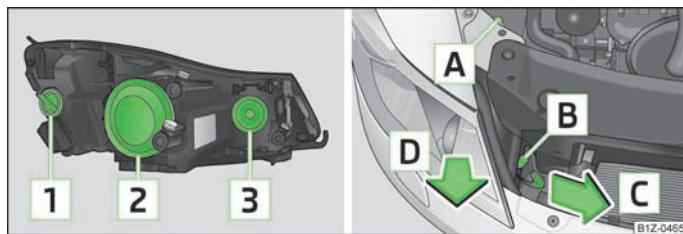

Fig. 163 Headlights: Bulb arrangement/removal
Overview of the location of the bulbs » Fig. 163.
- Unscrew the plastic nuts **A** » Fig. 163.
- Remove the rubber cover **Z** » Fig. 163.
- Remove the rubber cover **3** » Fig. 163.